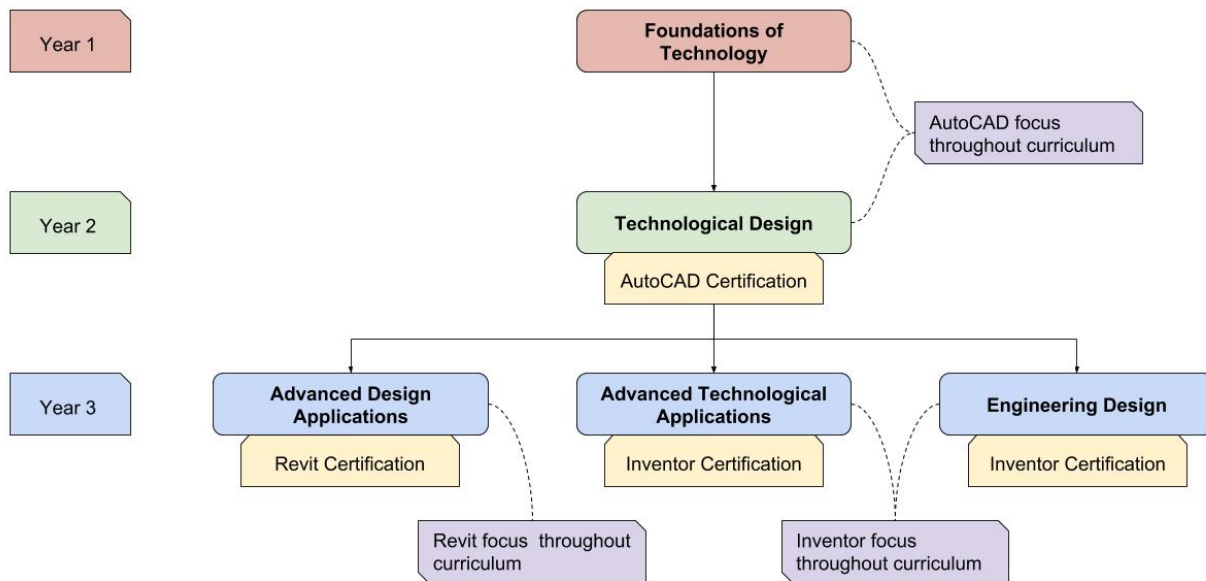
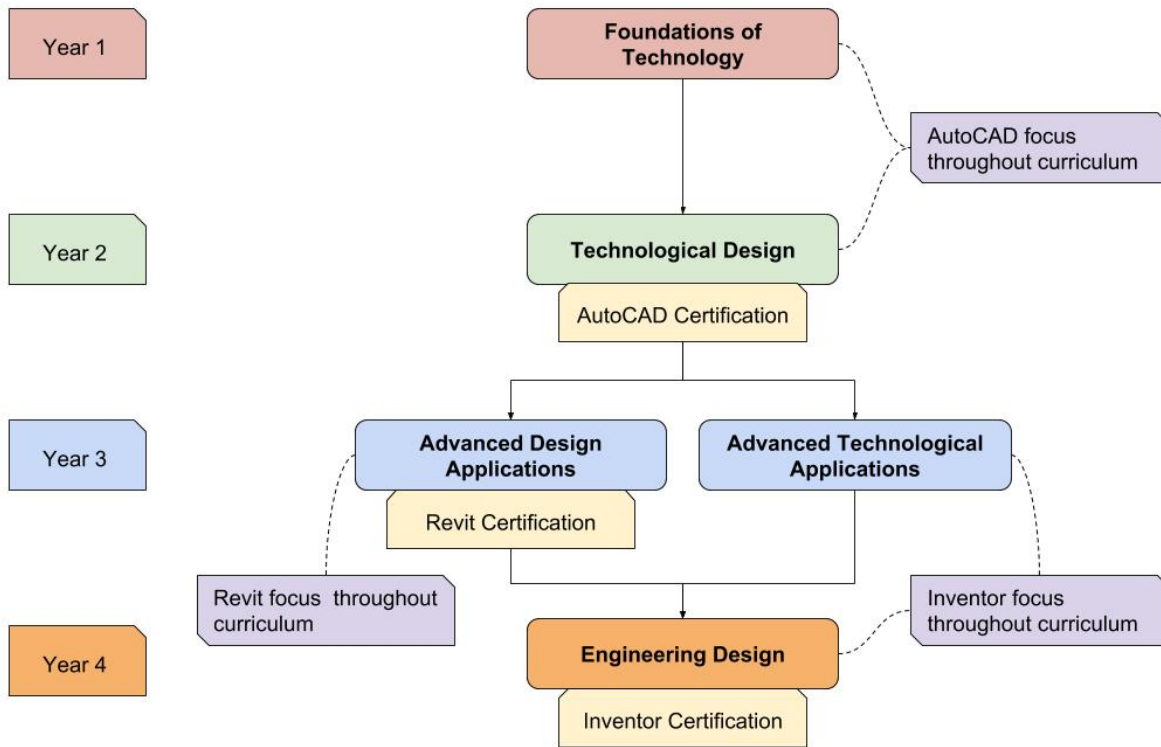

Figure 1. Three-Year Course Sequence for the Engineering byDesign™ Industry Certification Pathway.
Figure 2. Four-year Course Sequence for the Engineering byDesign™ Industry Certification Pathway.
In Year One (red callout in Figure 1), students take *Foundations of Technology* followed by *Technological Design* in Year Two (green callout in Figure 1). Both courses have a *focus* on AutoCAD, as shown in the purple callout. Toward the end of the *Technological Design* course, students take the certification exam for AutoCAD (yellow callout in Figure 1). In Year Three (blue callout in Figure 1), students take one of the three course options; *Advanced Design Applications*, *Advanced Technological Applications*, or *Engineering Design*. The *Advanced Design Application* course has a *focus* on Revit (purple callout in Figure 1) throughout the entire course, whereas the *Advanced Technological Applications* and *Engineering Design* courses *focus* on Inventor (purple callout in Figure 1). Toward the end of the *Advanced Design Applications* course, students can take the certification exam for Revit (yellow callout in Figure 1). Upon completion of the *Advanced Technological Applications* and the *Engineering Design* courses, students can take the certification exam for Inventor (yellow callout in Figure 1).
In Year One (red callout in Figure 2), students take the *Foundations of Technology* course followed by the *Technological Design* course in Year Two (green callout in Figure 2). Both courses have a *focus* on AutoCAD, as shown in the purple callout (Figure 2). Toward the end of the *Technological Design* course, students take the certification exam for AutoCAD (yellow callout in Figure 2). In Year Three (blue callout in Figure 2), students take either the *Advanced Design Applications* or *Advanced Technological Applications* courses. *Advanced Design Application* has a *focus* on Revit (purple callout in Figure 2) throughout the entire course whereas the *Advanced Technological Applications* course *focus* is on Inventor (purple callout in Figure 2). Toward the end of the *Advanced Design Applications* course students take the certification exam for Revit (yellow callout in Figure 2). A certification exam is not administered within the *Advanced Technological Applications* course for the four-year course sequence. During the fourth year (orange callout in Figure 2), students take the *Engineering Design* course. Toward the end of *Engineering Design* students take the certification exam for Inventor (yellow callout in Figure 2).
- Cover all objectives in the *Foundations of Technology* course in Year One (Figure 1 or Figure 2), and then again in the *Technological Design* course in Year Two (Figure 1 or Figure 2).
- Enrichment assignments should be given throughout the Year Two (*Technological Design*, Figure 1 or Figure 2) to equal three contact hours (outside of class).